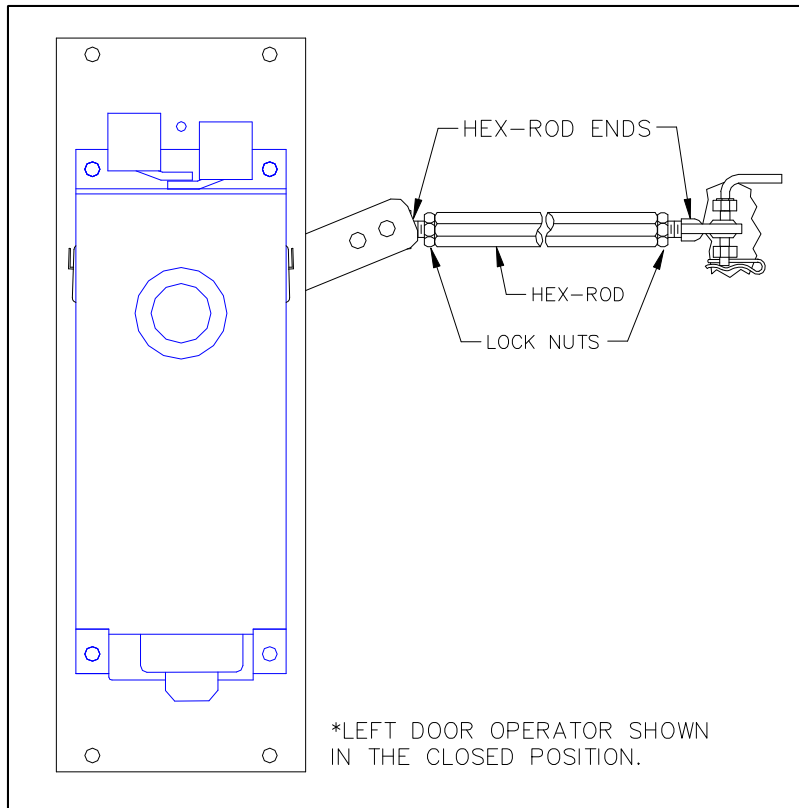

FIGURE 2-7: HEX ROD ADJUSTMENT
8. Refer to **Figure 2-7**. Adjust the length of the hex-rod assembly as required until the left door closes tightly. To adjust, loosen locknuts at ends of hex-rod, rotate the hex-rod, and then retighten the locknuts.